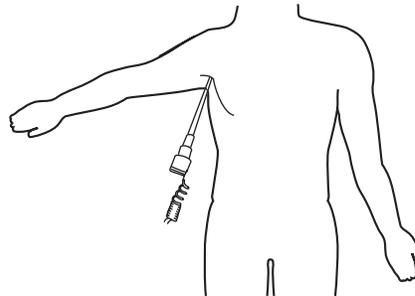

Figure 4-27: Taking Axillary Temperature
6. Have the patient lower the arm. Hold the probe almost parallel to the arm as shown in “Figure 4-27: Taking Axillary Temperature”.